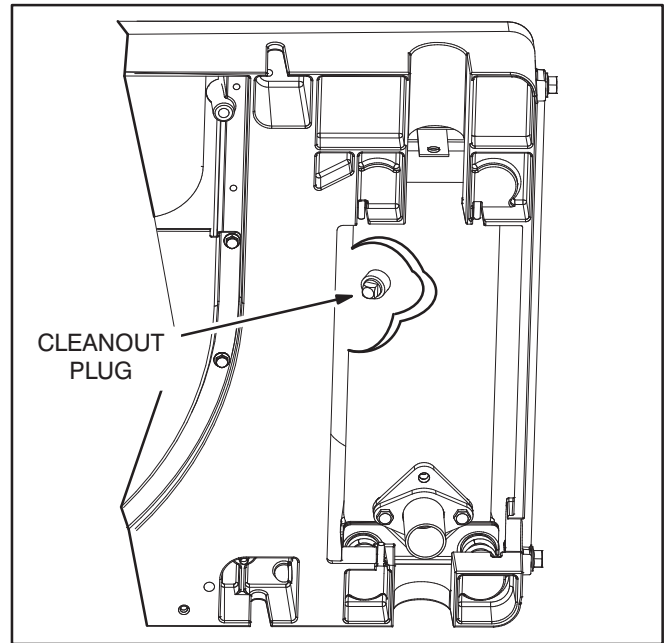
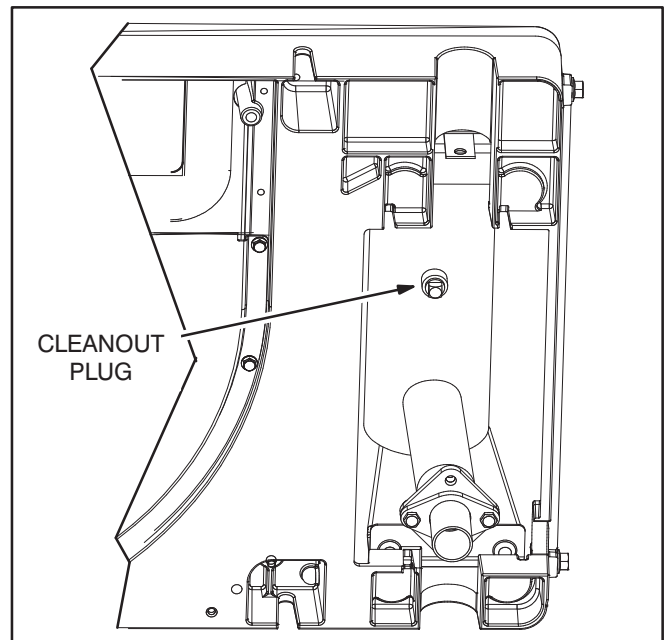
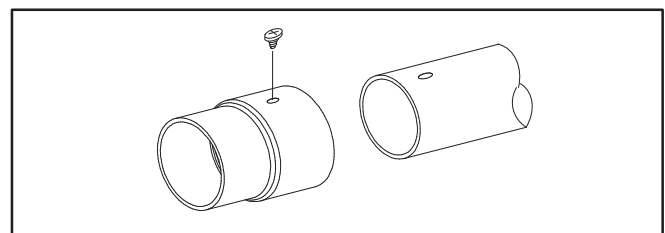

FIGURE 14. HJGAA CLEANOUT PLUG—VIEW FROM BELOW
FIGURE 15. HJGAB CLEANOUT PLUG—VIEW FROM BELOW
FIGURE 16. TYPICAL SPARK SCREEN
**Series HGJAD:** A double-drum muffler is mounted inside the genset. The cleanout plug is in the top drum, but accessible from below, though not readily visible. In Figure 14 a portion of the lower drum is cut out so that the location of the plug is visible.
**Series HGJAE:** See Figure 14 if double-drum or Figure 15 if single-drum. On a single-drum muffler the cleanout plug is accessible from below as shown in Figure 15.
**Series HGJAF:** The muffler is externally mounted. If it has a clean out plug like the one shown in Figure 15, use the instructions for Series HGJAE as a guide. Alternatively, the end of the tail pipe may have a spark screen (Figure 16). If so, remove the screw that secures the spark screen, clean the screen with a wire brush and re-install it.